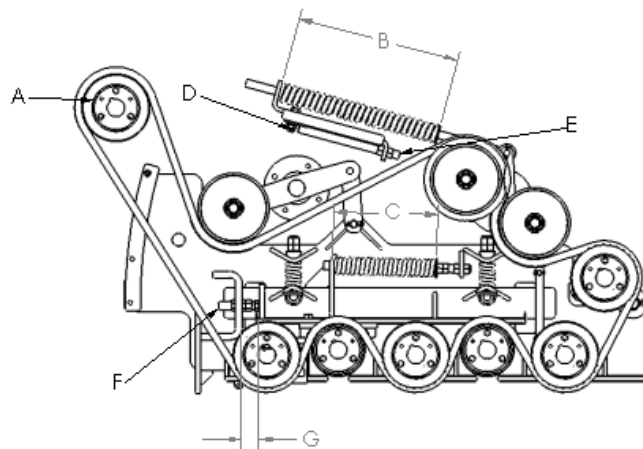

Figure 7-29: Rear Grabroll Spacing Adjustment
3. Adjust bolt (F), shown in Figure 7-29, to change the gap between the smooth grabrolls and scrolled grabrolls.